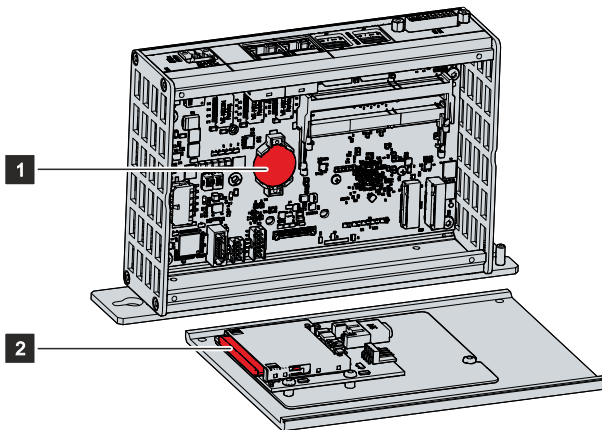

Fig. 16: Battery and CFast
You now have access to the battery (1) and CFast (2) (see fig. 16).